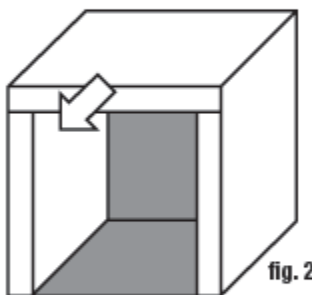

fig. 2
3. Install the TUFECOTE® TBK Faced Foam to the inside of the housing and over the vibration control tape (fig. 2).